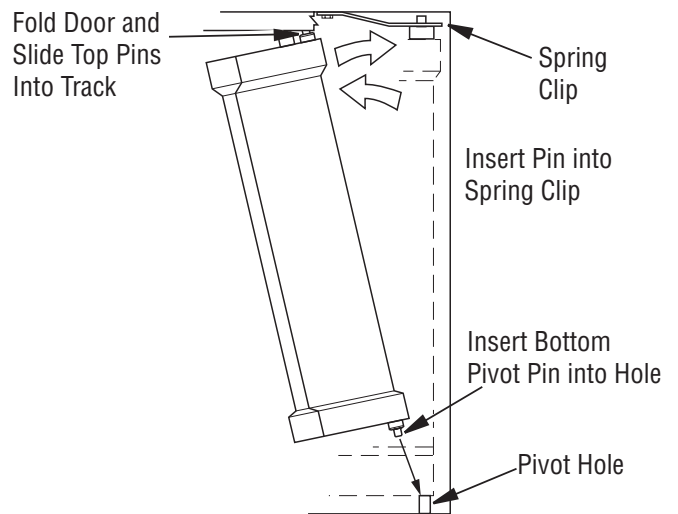

Figure 31 - Removing / Installing Bi-Fold Doors
1. Fold doors (fully open) and press up on upper door spring clip until top pin is free of the spring clip (see Figure 31). Tip door toward middle of fireplace opening and lift door out of the lower pivot hole.
1. With bi-fold doors completely folded, insert bottom pivot pin into pivot hole located near bottom corner of front face opening and swing door to vertical position making sure top pins slide into door track. Door is installed when top door pin snaps into spring clip (see Figure 31).